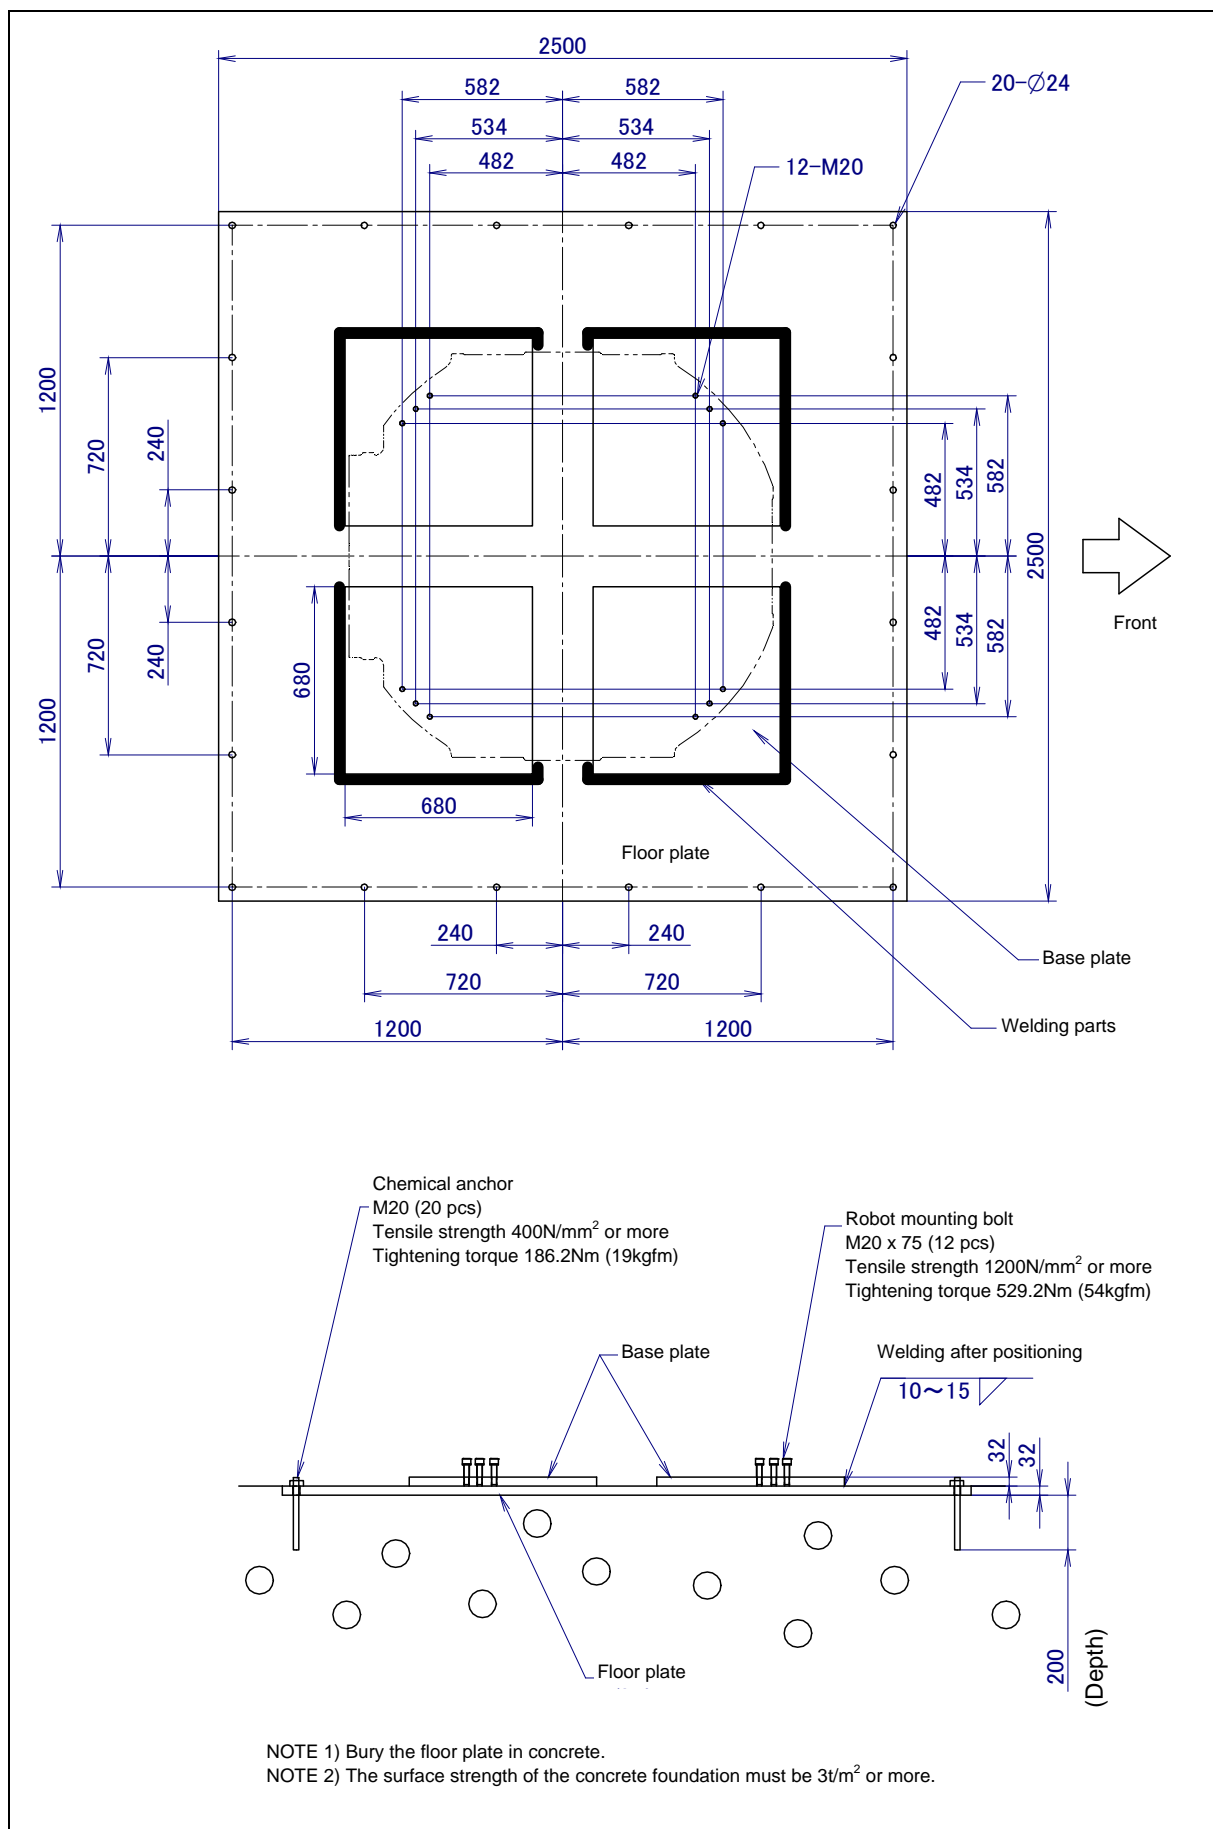

Fig. 1.2.1 (b) Actual installation example (M-2000iA/2300/1700L)
- Installation example Fig. 1.2.1 (a), (b)